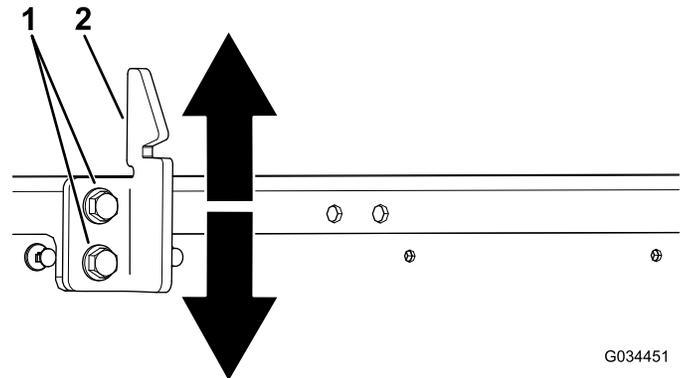

Figure 64
3. Loosen the 2 bolts on the bed-latch striker and move the striker up or down, depending on if the striker is too high or too low (Figure 64).
4. Tighten the 2 bolts on the bed-latch striker (Figure 64).